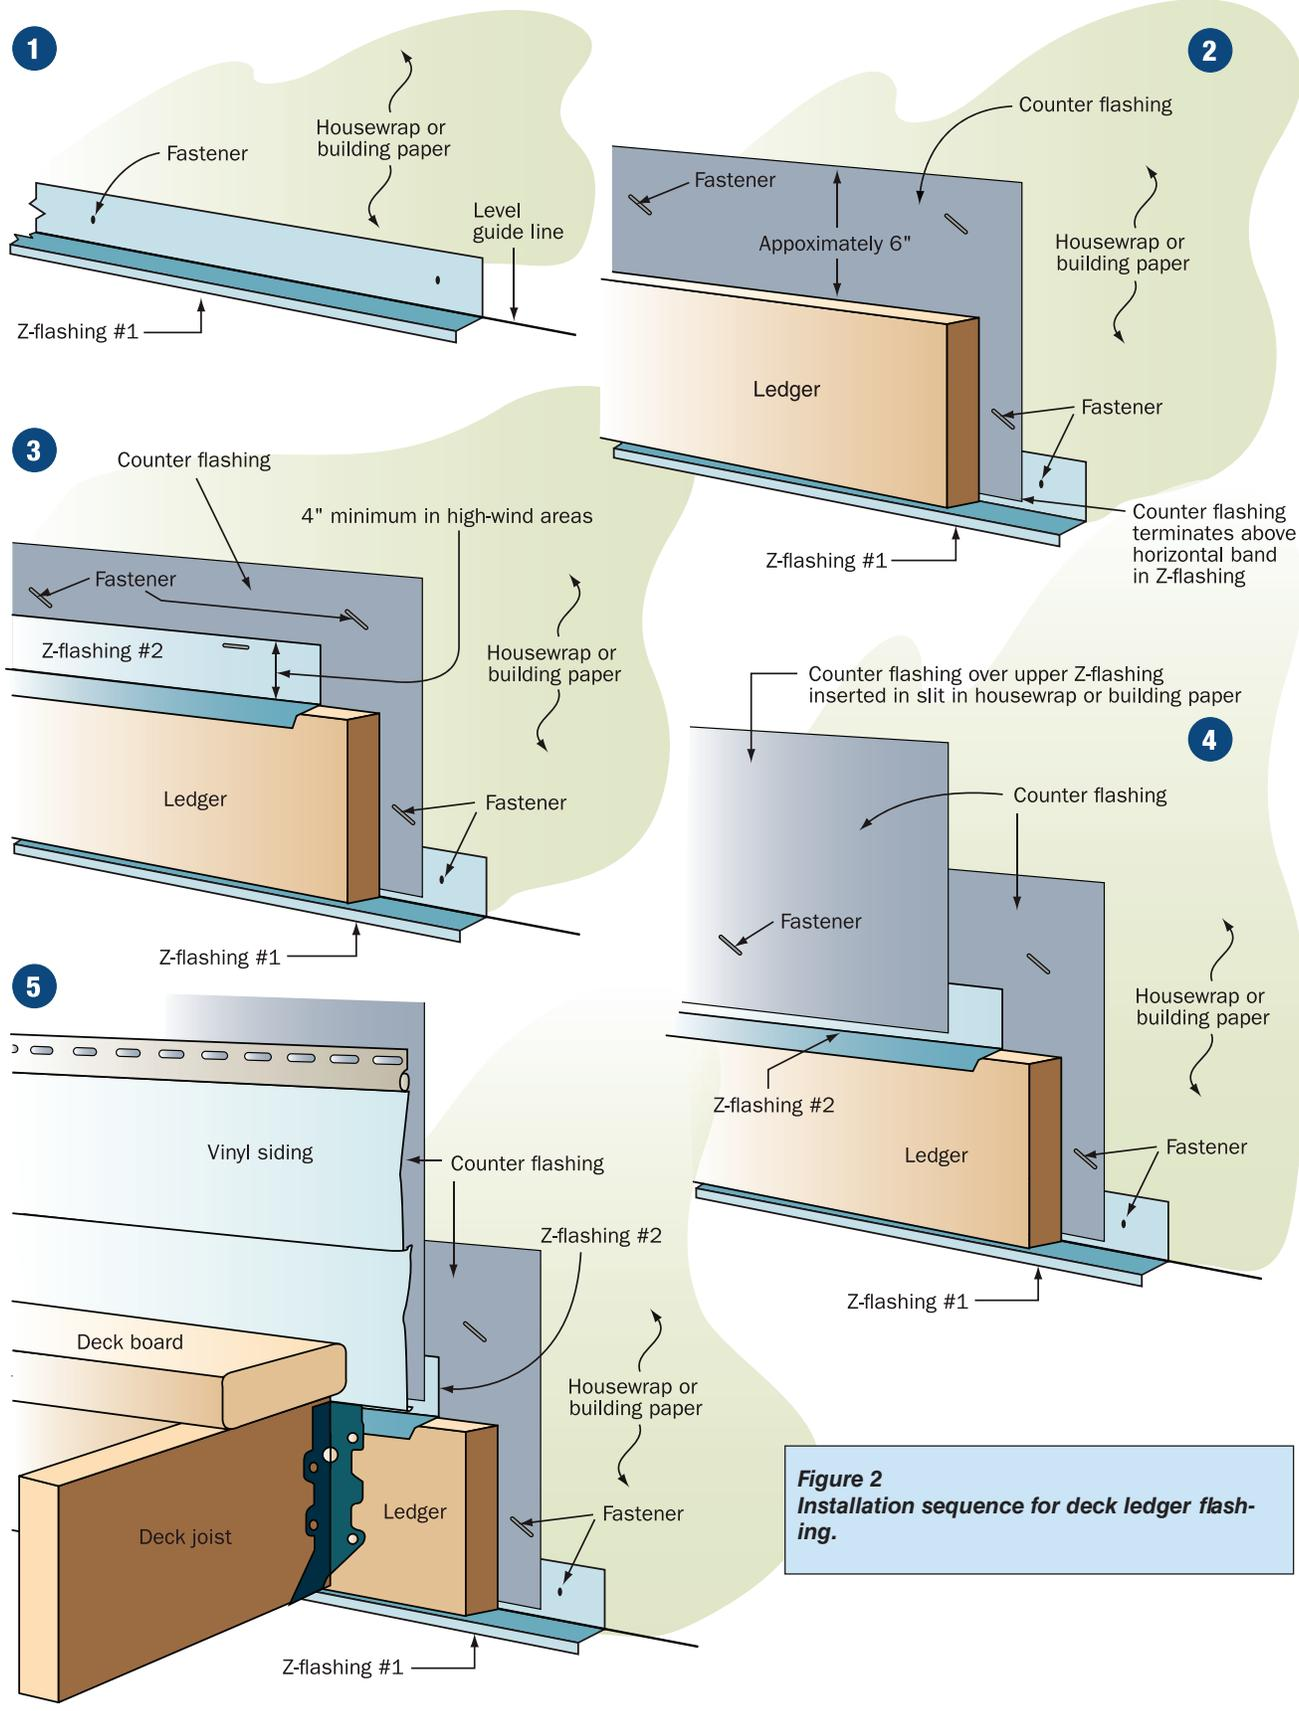

Figure 2
- Follow proper installation sequence to prevent water penetration at deck ledger (see Figure 2).